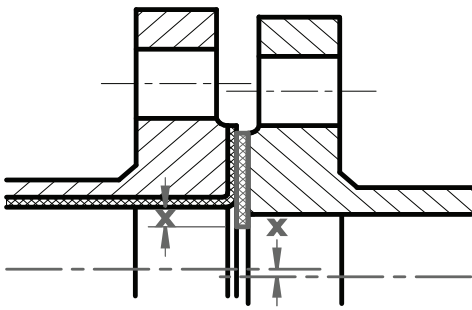

Figure 2.1
1. Pipe adjacent to the FM100 must match the sensor exactly (see Figure 2.1). Any transitions will create turbulence that will disrupt sensor operation.